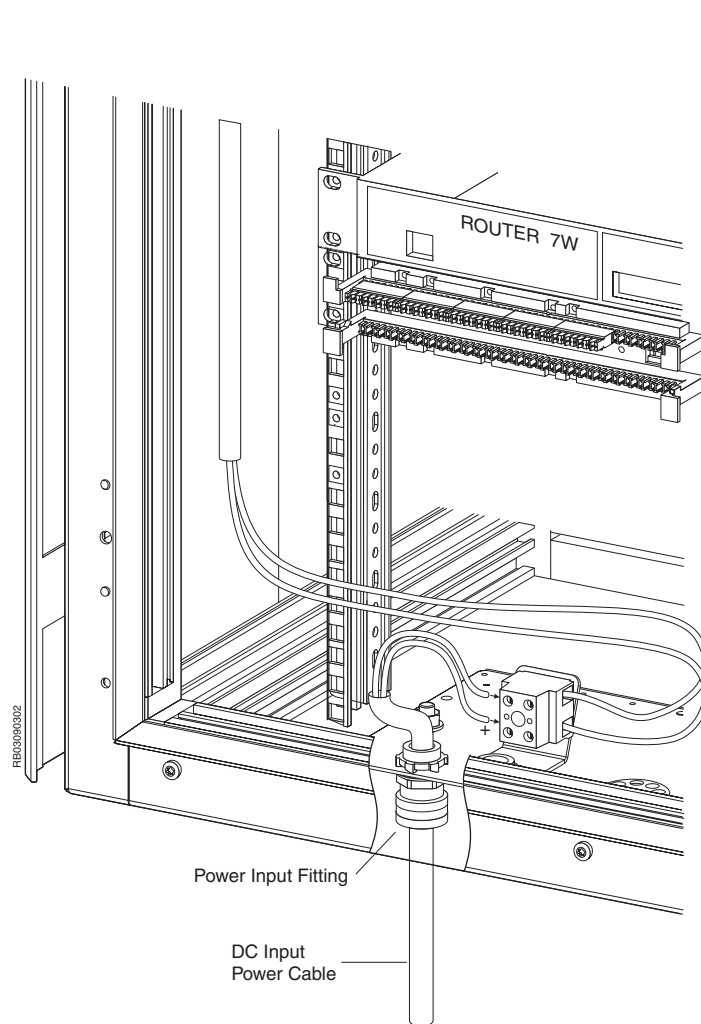

Figure 3.15 DC Power Connection
3. Connect the power wires (red +, black -) to the corresponding DC output terminal on the SBS Bottom Plate, as shown in Figure 3.15 on page 49.
3. Connect the power wires (red +, black -) to the corresponding DC output terminal on the AC Input Panel, as shown in Figure 3.15 on page 49.